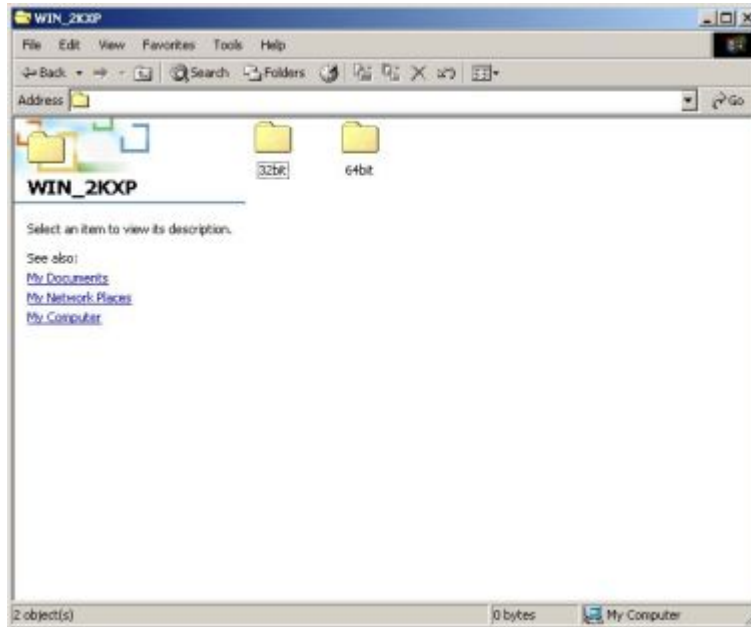

Figure 7-21: Select Operating System Type
- Step 6:** The window in **Figure 7-21** appears.
- Step 7:** In **Figure 7-21** select the operating system type installed on the system.